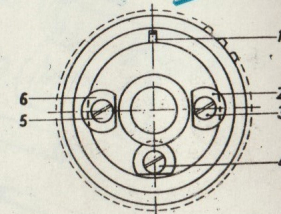

Fig. 25
- . Remove screws "3" and "5" and washers "2" and "6" at the rear of the sprocket (fig. 25); never loosen screw "4".
- . Fit washers "2" and "6" again in the position indicated in fig. 25 and tighten screws "3" and "5".